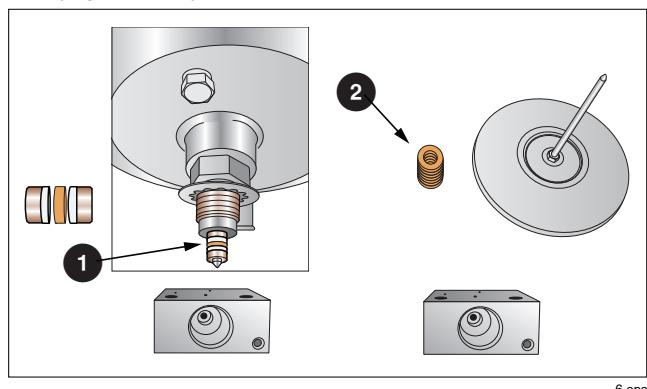

Figure 5. Stem Vee and Spring Placement
5. Remove the packing material from the valve body (Figure 5, ①). Note the order of the packing material and take note of the chamfer orientation.
6. Remove the stem vee and spring from the top half. (Figure 5, ②).